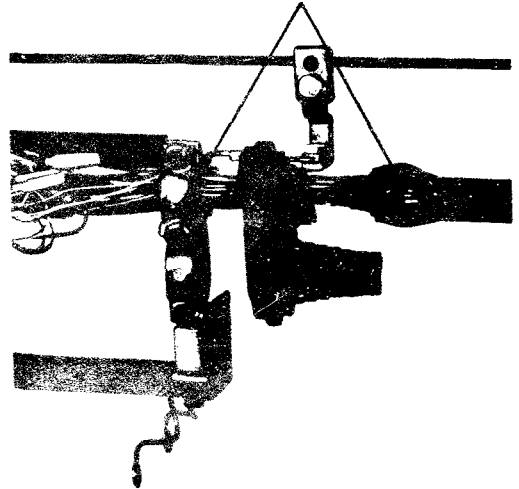

Fig. 1—Example of Sheath Pull-out from 1-Type Closure
2.01 A typical example of a 1-type closure with sheath pull-out and/or broken sheath tabs is shown in Fig. 1.